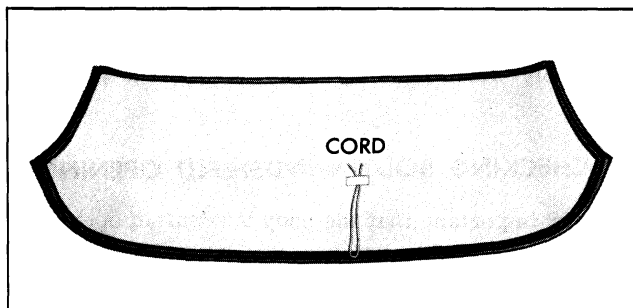

Fig. 2-8 Windshield Installation
3. Install a strong cord in pinchweld cavity of rubber channel completely around windshield. Tie ends of cord and tape to inside surface of glass at bottom center of glass (Fig. 2-8).